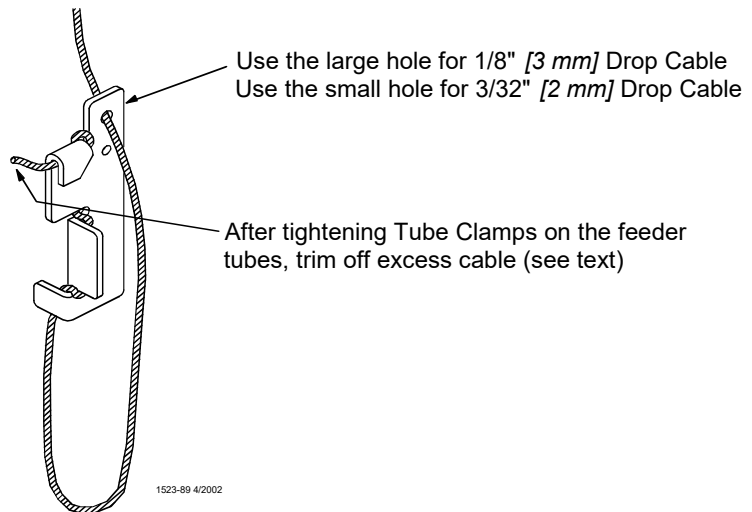

Figure 32. Assembling Feeders on the Tubes
14. Finally, tighten the Tube Clamps on the feeder tubes. Clamp the joints securely, but do not crush the tubes. Re-adjust all Adjustment Levelers as needed and trim off excess cable as shown in **Figure 32**.
1. Assemble the End Control Unit to the Feeder Line Control Tube using a clamp/anti-roost bracket. See **Figure 32**. **DO NOT INSTALL THE POWER UNIT AT THIS TIME.**